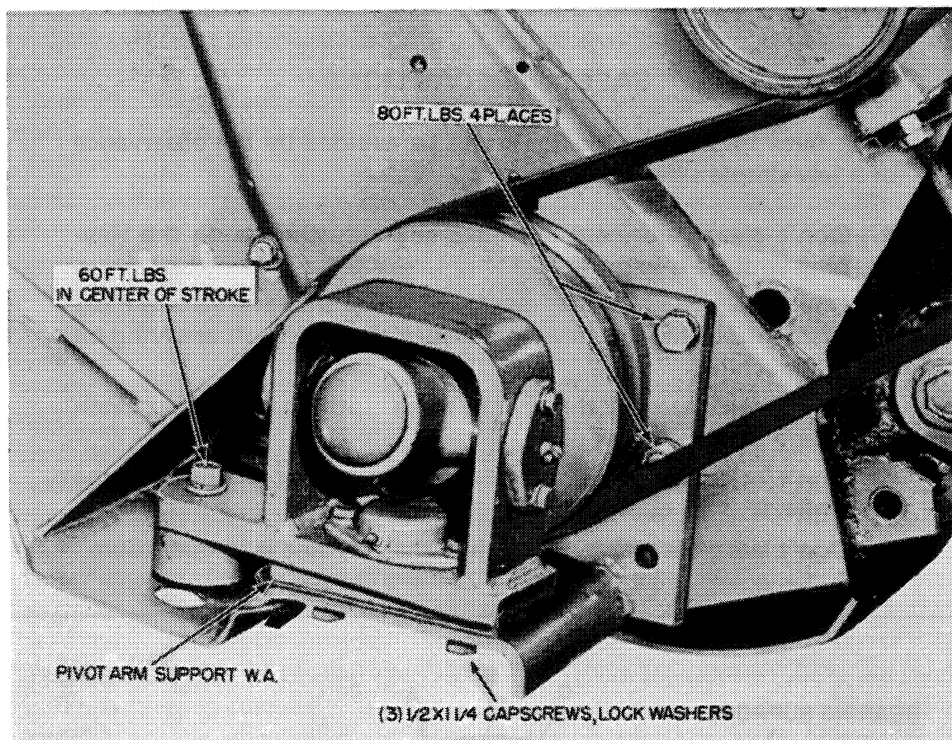

FIGURE 2
3. Remove the three $\frac{1}{2} \times 1\frac{1}{4}$ cap screws, Fig. 2, securing the pivot arm support W.A.